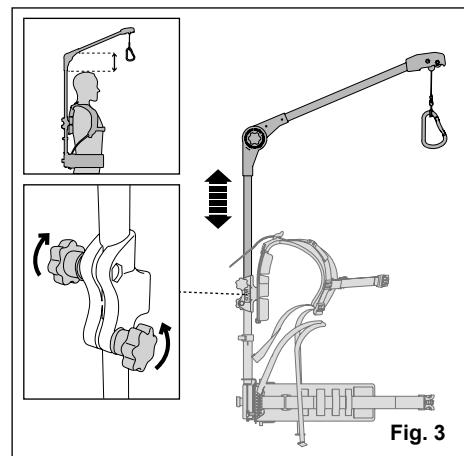

Fig. 3
- Loosen the knobs to adjust the space between your shoulders and the room above your head. (Fig 3).